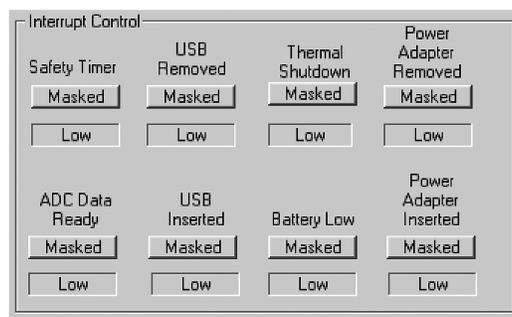

Figure 9. Interrupt Control Interface
- 3.8V - Can be selected by software, as shown in Figure 9. H1 jumper needs to be set at ADJ.